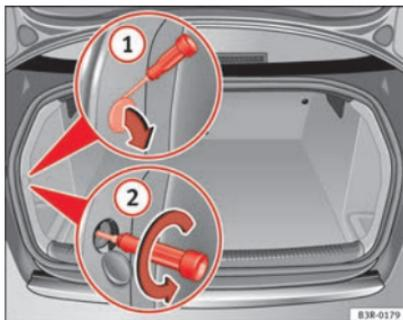
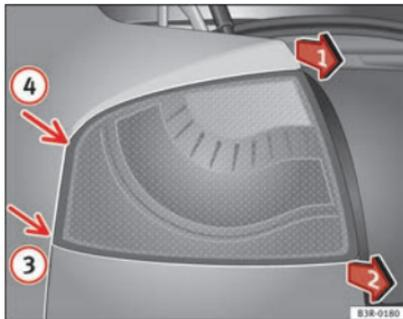

Fig. 210 Luggage compartment: Location of the bolt securing the tail light unit
Fig. 211 Remove rear light unit from side panel
- Prise open the cover at the slot with the flat blade of a screwdriver ⇒ Fig. 210 ①.
- Use a screwdriver to loosen the screw ② (arrow) located behind the cover.
- Gradually ease the tail light out of the housing (⇒ Fig. 211 positions ③ and ④) by pulling alternately in positions ① and ②.